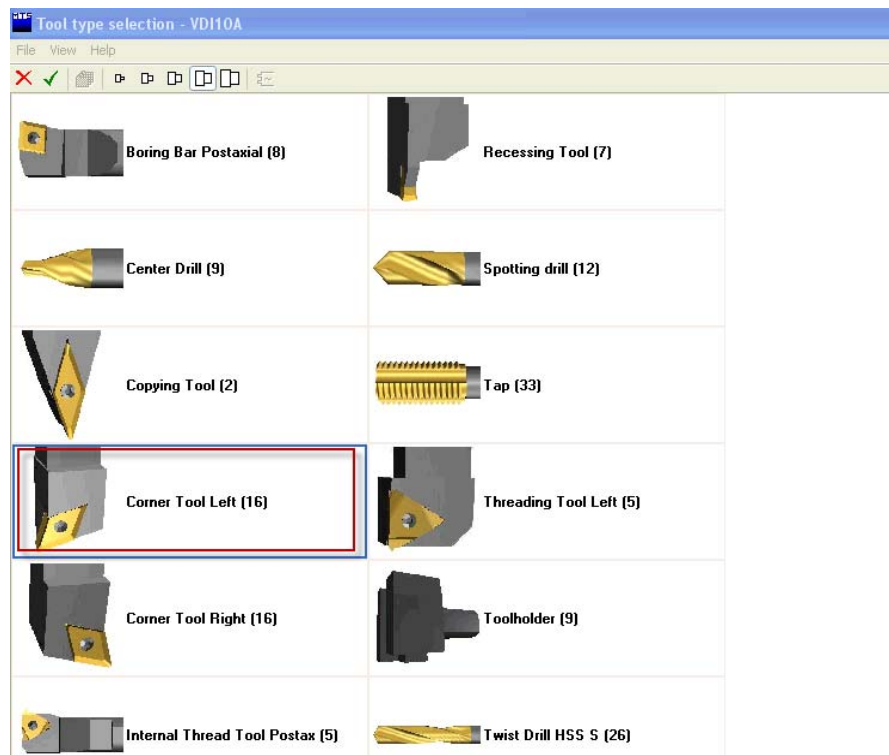

Fig. 2.18 Tool type selection
- d. Double click on "**Corner tool left**" to select the type of the tool mentioned in the setup sheet as shown in Fig. 2.18.